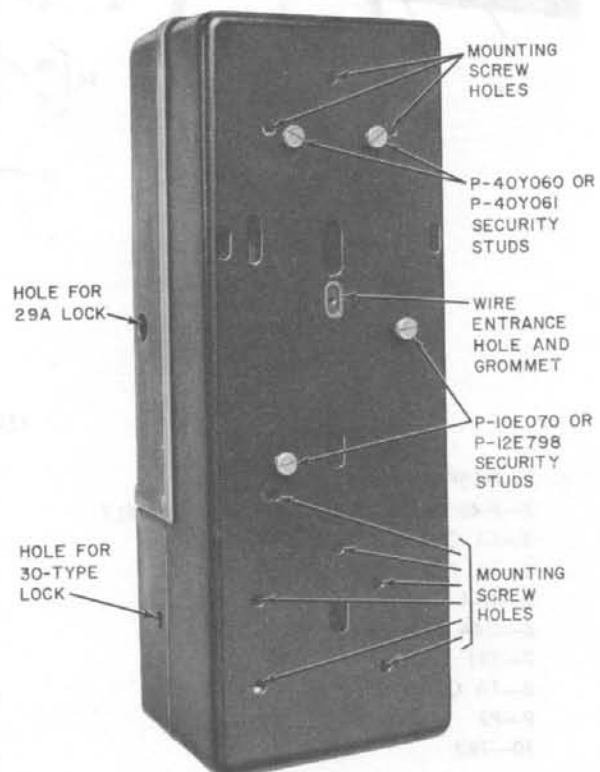

Fig. 8 — Location of Mounting Screw Holes and Security Studs in 1C-Type
- (b) Provision is made for use of four security studs. (Fig. 8).
- (b) Refer to Fig. 8 and 9 and Tables C and D for security stud requirements.